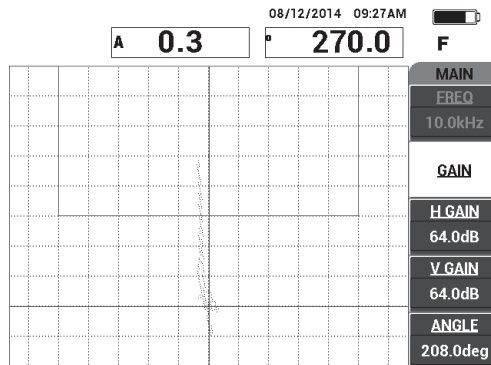

Figure 6-26 The signal amplitude adjusted to enter the alarm box
- Press the **GAIN** key (**dB**), and then adjust the signal amplitude so that the disbond signal enters the alarm box and extends approximately 5 divisions from the null position (cross hairs) [see Figure 6-26 on page 148].